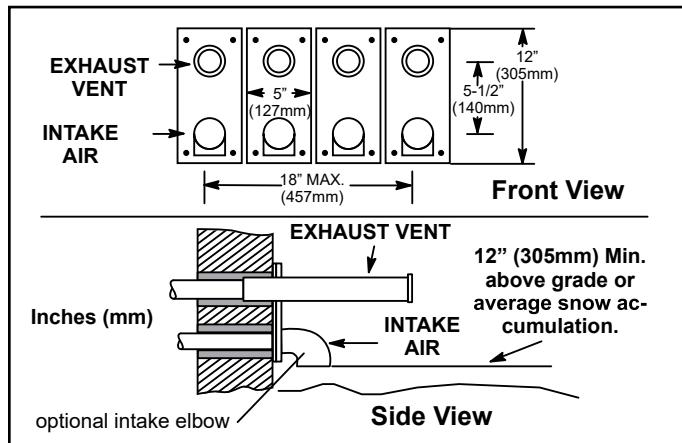

Figure 32. Optional Vent Termination for Multiple Unit Installation of Direct Vent Wall Termination
- A multiple furnace installation may use a group of up to four terminations assembled together horizontally, as shown in Figure 32.